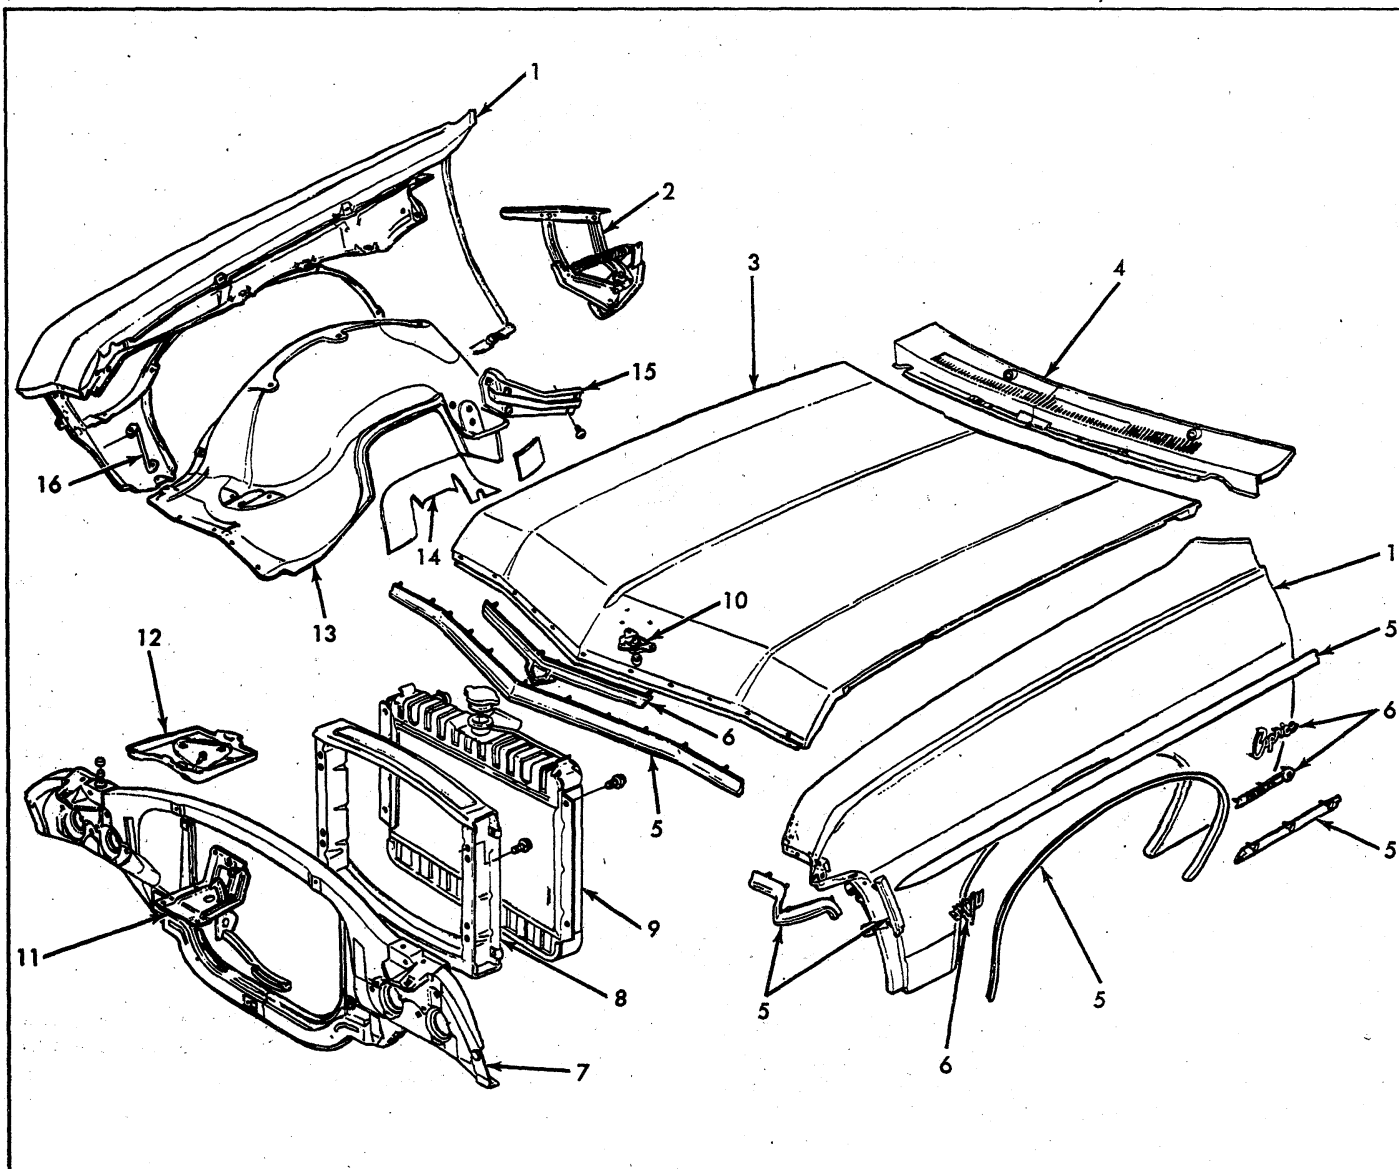

Fig. 1 - Front End Sheet Metal - Chevrolet
14 for Bumpers, and Section 1A for Air Conditioning components. Figures 1 and 2 illustrate the Chevrolet and Chevelle sheet metal components.
2. On Chevrolet models, remove headlamp bezels and headlamps; on Chevelle models, remove grille extension panels (fig. 1 or 2 as applicable).
6. Remove fender brace (fig. 1 or 2 as applicable).